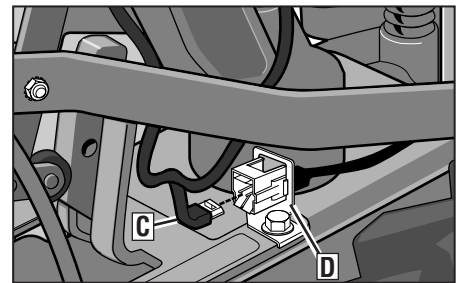

Figure 2-5. Forward Interlock Wire Harness connection.
1. Remove any dirt from the Forward Interlock wire harness plug (C, Figure 2-5) and its receptacle (D).
2. Connect the Forward Interlock wire harness plug (C, Figure 2-5) to the receptacle (D).